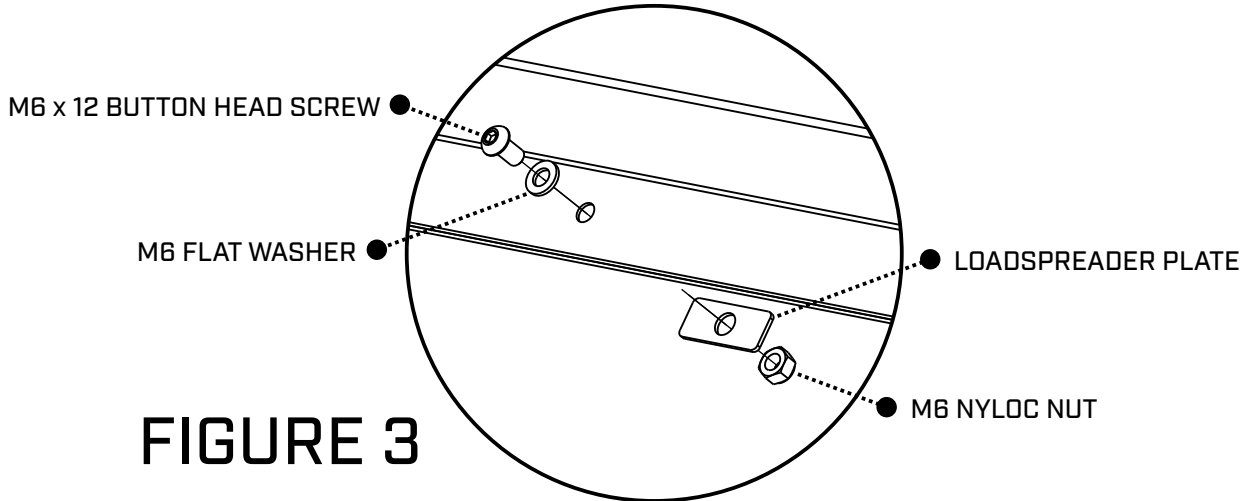

FIGURE 3
1. WHEN THE TOP IS SECURED FOLLOW THE SAME FASTENING METHOD SHOWN IN FIGURE 3 FOR THE REST OF THE MOUNTING POINTS.